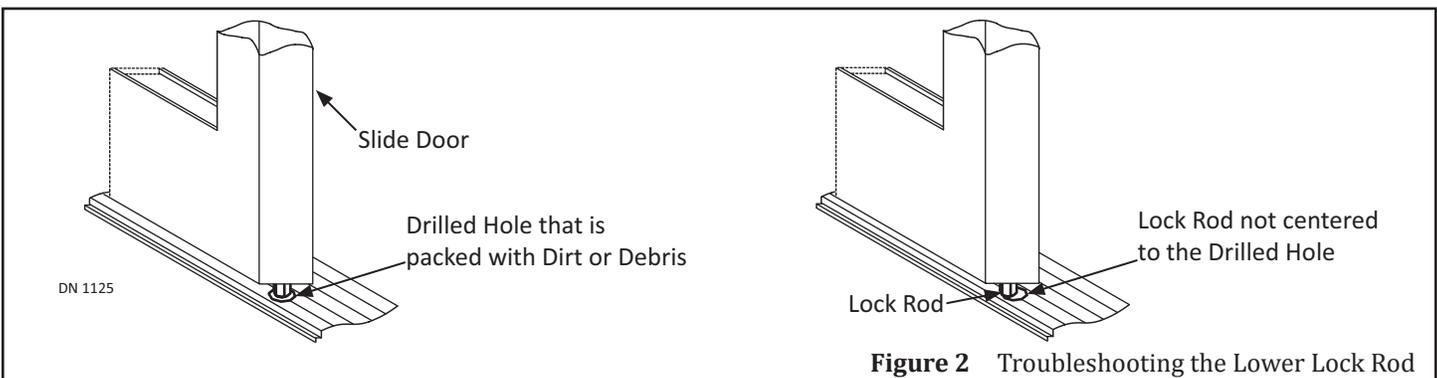

Figure 2 Troubleshooting the Lower Lock Rod
When the 3-Point Lock is turned to lock the Slide door; the Hook Bolt simultaneously inserts into the Strike Stile while the Upper Lock Rod inserts into the Header and the Lower Lock Rod inserts into the Track/Floor. Please see Figure 2.
1. Open the Slide door to inspect the Drilled hole. Please see Figure 2.